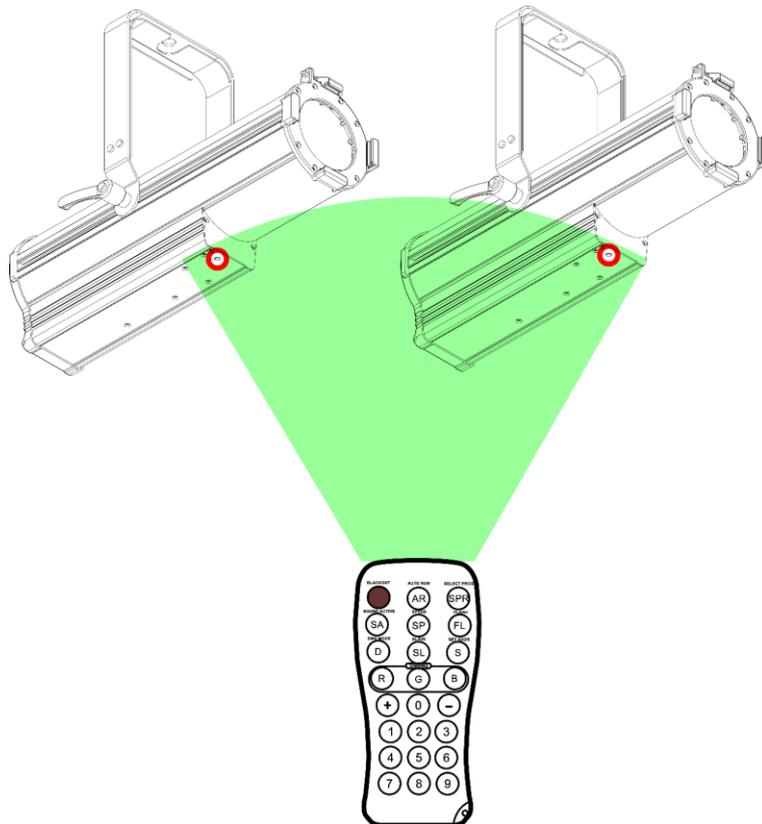

Fig. 20
You can control several devices at the same time with the remote control. Make sure that you point the remote control towards the **infrared sensor (10)** of the device or group of devices that you want to control, as shown in Fig. 20. If you point the remote control outside of the range of the sensor(s), the device(s) will not respond to the remote control.